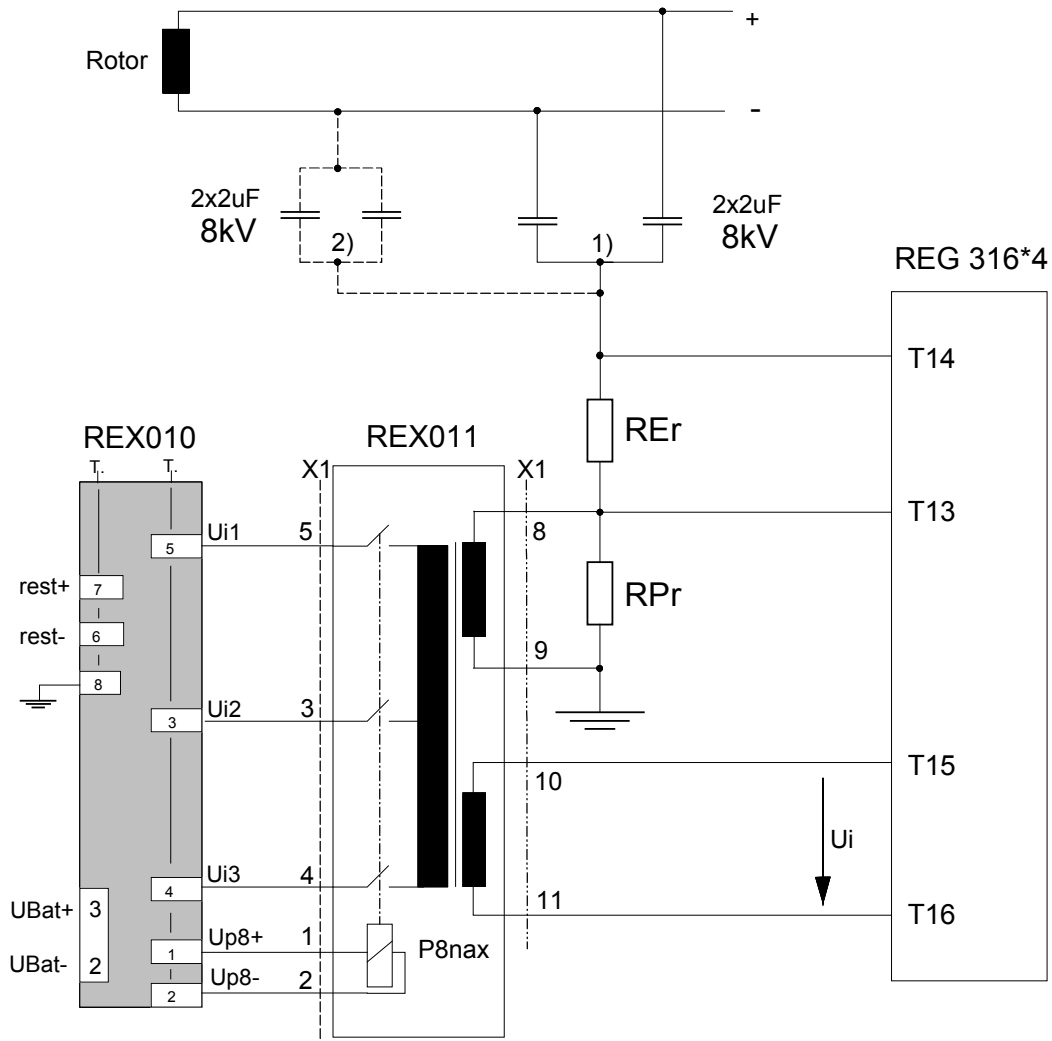

Fig. 2.7 Wiring diagram for rotor ground fault protection using REX 011 (see Fig. 2.11)
- Fig. 2.7 Wiring diagram for rotor ground fault protection using REX 011